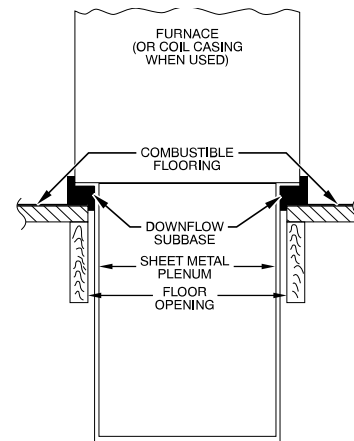
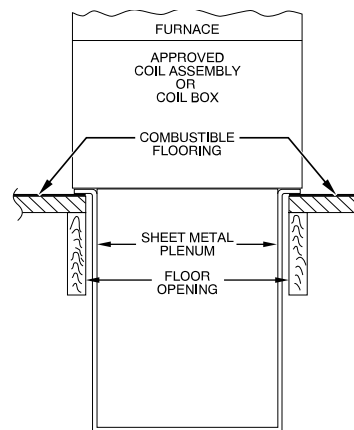

Fig. 12 – Furnace, Plenum, and Subbase Installed on a Combustible Floor
Fig. 13 – Furnace, Plenum, and Coil Assembly or Coil Box Installed on a Combustible Floor
- If downflow subbase is used, install as shown in Fig. 12. If manufacturer's cased evaporator coil or coil casing is used, install as shown in Fig. 13.